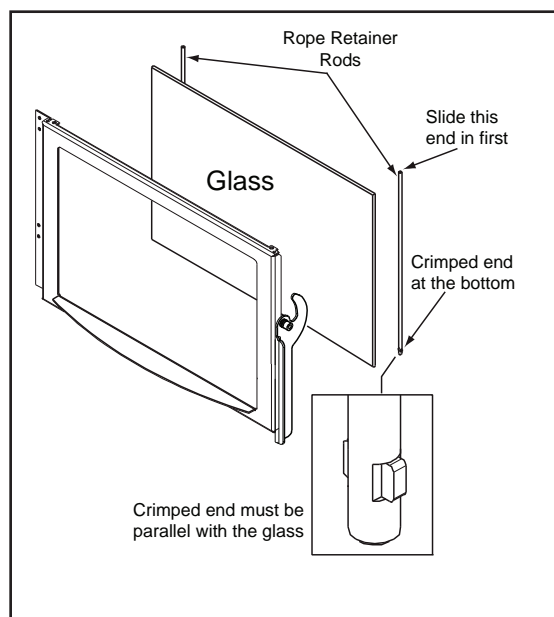

Figure 36.2
- Slide the retainer rod into the top hole first, and then line up the bottom crimped end with the hole in the door. The crimped end must be parallel with the glass in order to insert it into place. **Figure 36.2.**